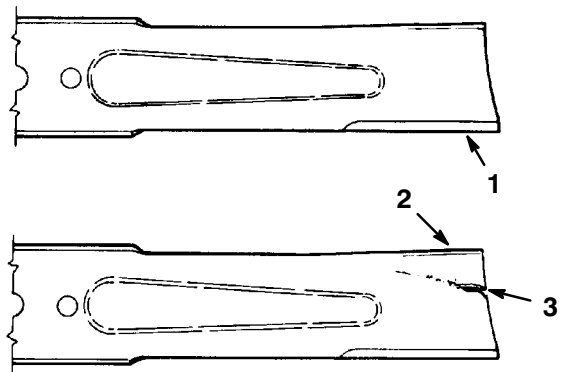

Figure 34
2. Inspect the cutting edges (Fig. 34). If the edges are not sharp or have nicks, remove the blade(s) and sharpen them; refer to Sharpening the Blade(s), page 35.
3. Inspect the blade(s), especially the curved area (Fig. 34). If you notice any damage, wear, or a slot forming in this area (Fig. 34), immediately install a new blade.